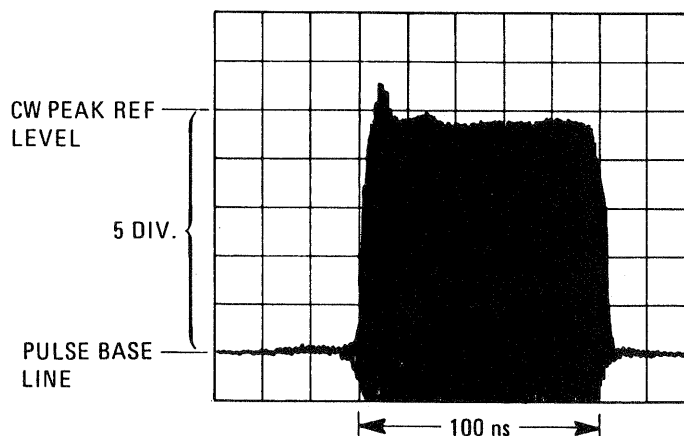

Figure 4-15. Pulse Accuracy Measurement
29. Switch back to PULSE NORM. Without touching the vertical sensitivity controls, measure the difference between the CW peak reference level and the average peak pulse level excluding any over/undershoot. See Figure 4-15.